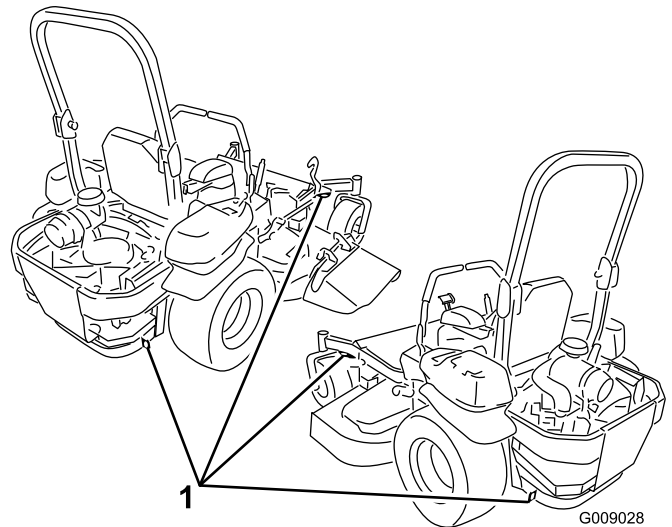

Figure 38
5. Use the metal tie-down loops on the machine to securely fasten the machine to the trailer or truck with straps, chains, cable, or ropes (Figure 38).